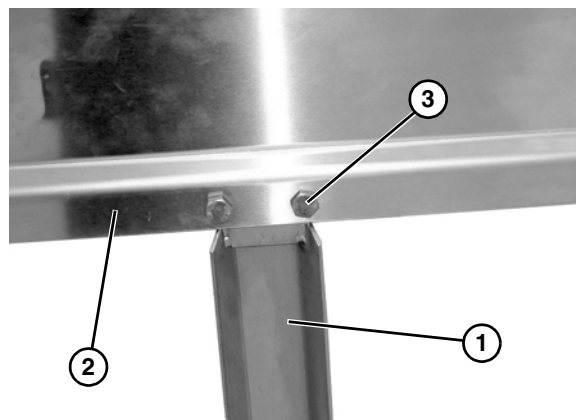

Figure 2
Failure to secure screws (Figure 2, item 3) may cause conveyor sections to drop down causing severe injury. TIGHTEN SCREWS (Figure 2, item 3) AFTER ADJUSTMENT.
2. Attach the stand (**Figure 2, item 1**) to the conveyor (**Figure 2, item 2**) and tighten the four bolts (**Figure 2, item 3**).